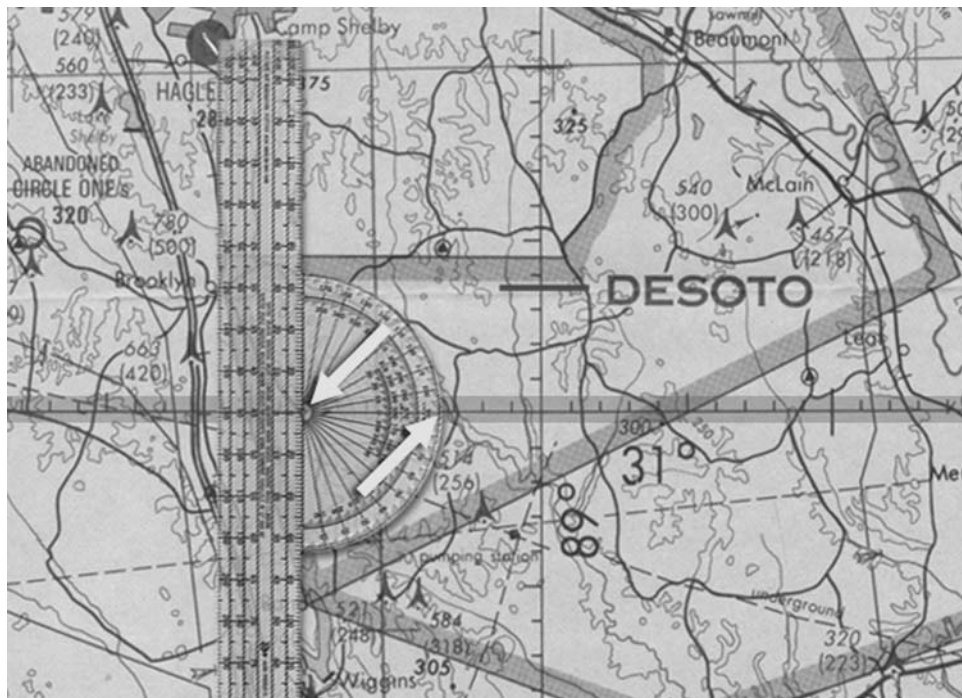

Figure 4.2.16 Longitude
4. To determine the Longitude coordinate, repeat steps 1 through 3 above aligning the plotter to a parallel instead of a meridian (Figure 4.2-16).